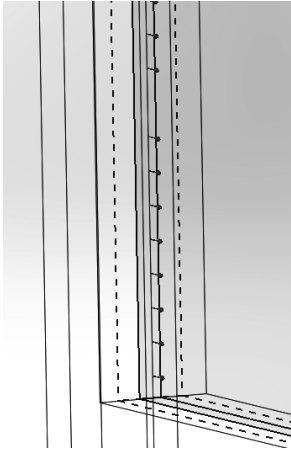
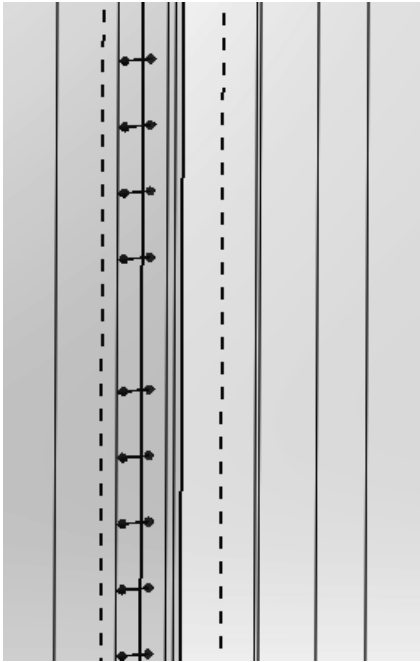

Figure 2.17d) Inlet velocity boundary condition indicated by arrows
Figure 2.18b) Outlet static pressure boundary condition
18. Red arrows pointing in the flow direction appears indicating the inlet velocity boundary condition, see figure 2.17d). Right click in the graphics window and select **Zoom to Fit**. Right click again in the graphics window and select **Rotate View** once again to rotate the part so that the inner right surface is visible in the graphics window. Right click and click on  **Select**. Right click on  **Boundary Conditions** in the **Flow Simulation analysis tree** and select **Insert Boundary Condition....** Right click on the outflow boundary surface and select **Select Other**. Select the Face corresponding to the outflow boundary. Click on the **Pressure Openings** button in the **Type** portion of the **Boundary Condition** window and select **Static Pressure**. Click OK to exit the window. If you zoom in on the outlet boundary, you will see blue arrows indicating the static pressure boundary condition, see figure 2.18b).